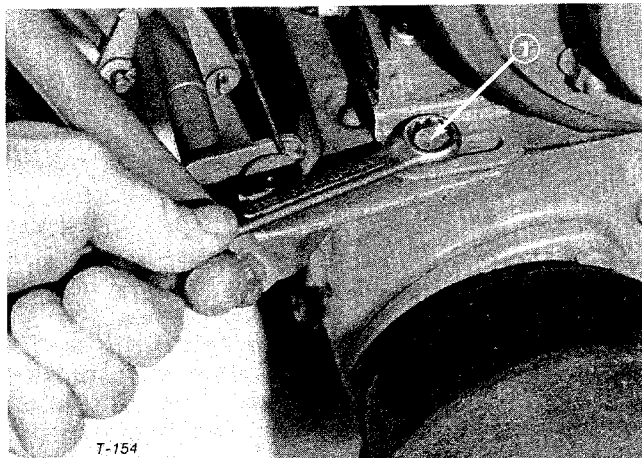

Figure 43
2. Loosen the four engine hold down screws (Fig. 43).